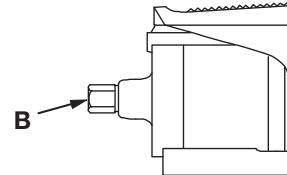

Figure 5
1. See Figure 5. Connect a 9 CFM [15 m3/h] (minimum) air supply source to the 1/4"[0,5 cm] NPTF pump air inlet swivel connector (B). Use only 1/4" [0,5 cm] hose or quick disconnect fittings. Larger, heavier fittings are not recommended. Use a high-grade pipe thread sealer to seal the connection.